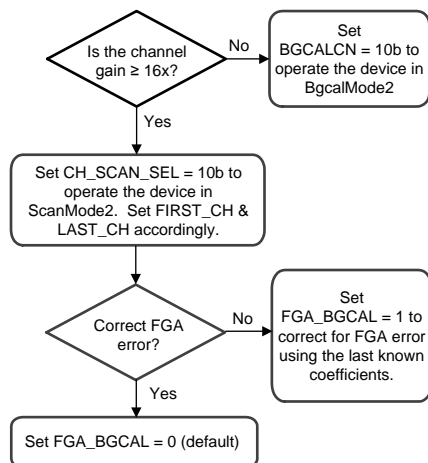

Figure 49. BgcalMode2 Register Settings
- Follow Figure 49 to set other appropriate registers when using this mode.